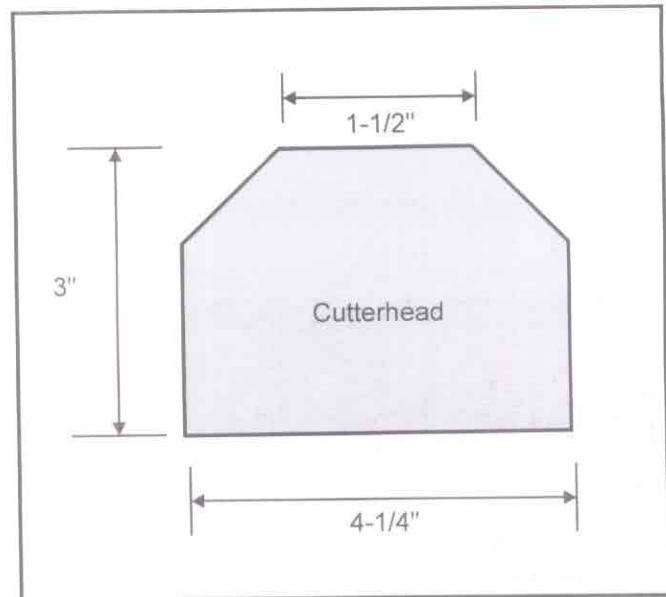

Fig. 6
3. Mark each block as shown in Figs. 6 and 7.